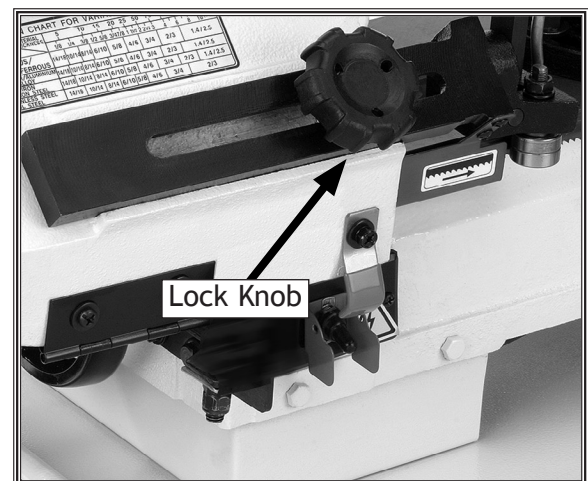

Figure 34. Blade guide position lock knob.
8. Tighten the jam nuts and slide the blade guide close to the workpiece so the blade is supported and will not twist during the cut (see **Figure 34**).